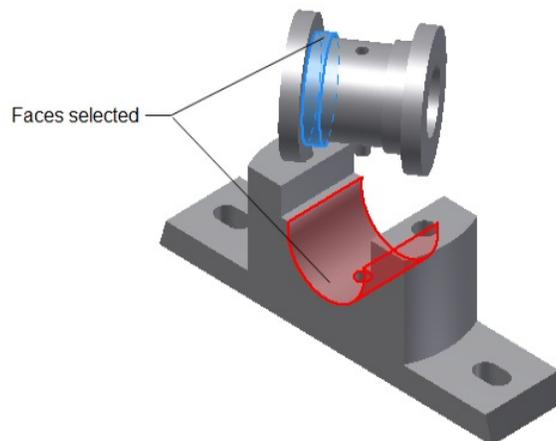

Figure 9-83 *Selecting the cylindrical faces of the Brasses and the Casting for*
10. Select the cylindrical face of the Brasses as the first selection and then select the cylindrical face of the Casting as the second selection, as shown in Figure 9-83. Next, choose the **Apply** button in the **Place Constraint** dialog box; the constraints are applied, as shown in Figure 9-84.